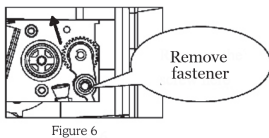

Figure 6
- Take out the screw and washers from the Release Lever and remove the Release Lever in the direction of the arrow. (figure 6)